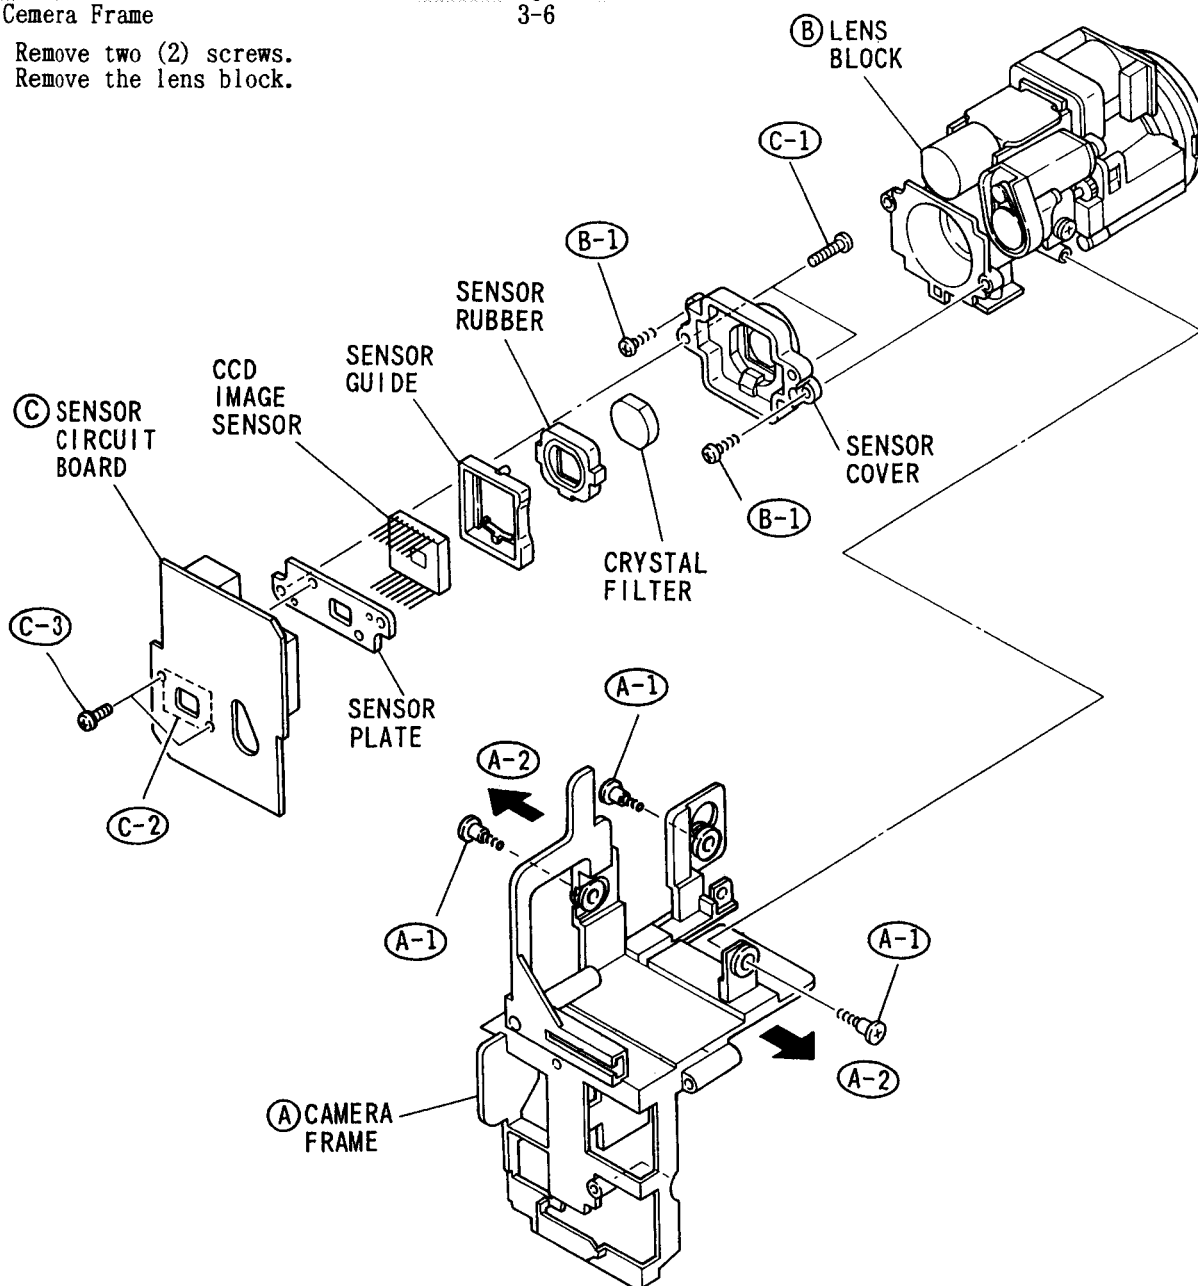

Fig. 3-6
A. Camera Frame (Fig. 3-6)
- 1) Remove three (3) screws.
B. Lens Block (Fig. 3-6)
- 1) Remove two (2) screws.
C. Sensor Circuit Board (Fig. 3-6)